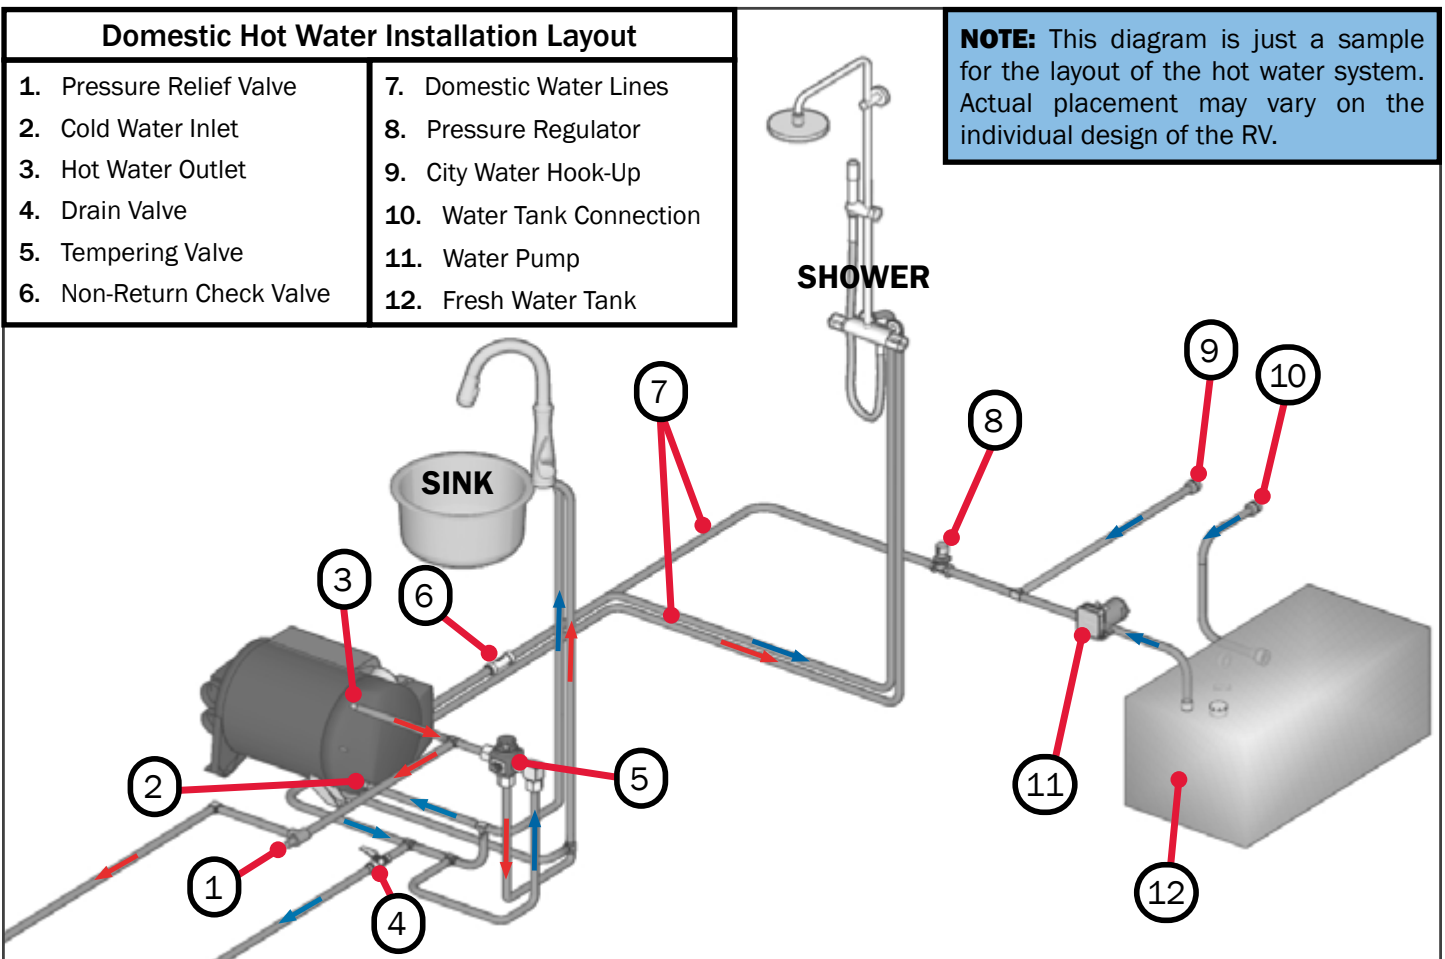

Figure 21
- The non-return valve (#6 Figure 21) must be installed in the proper direction: